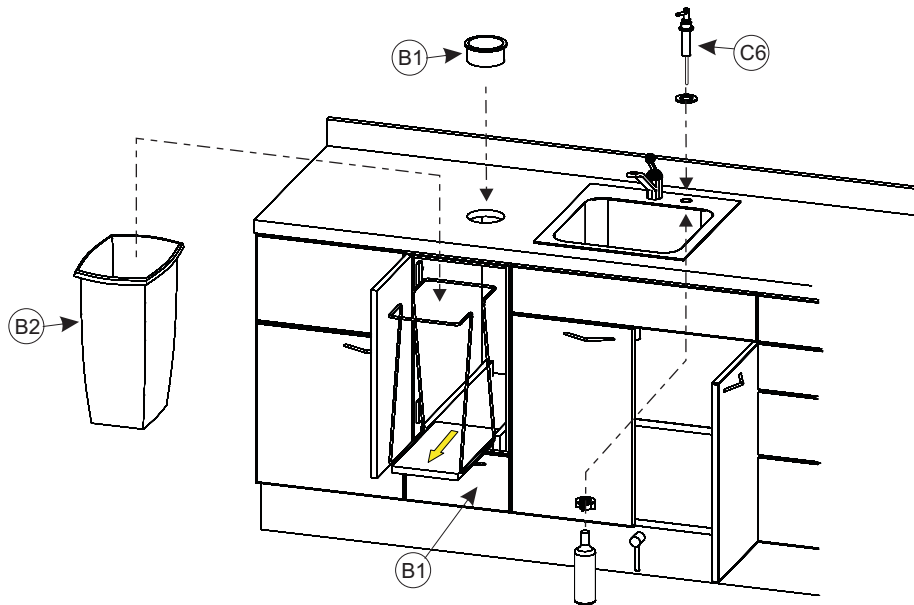
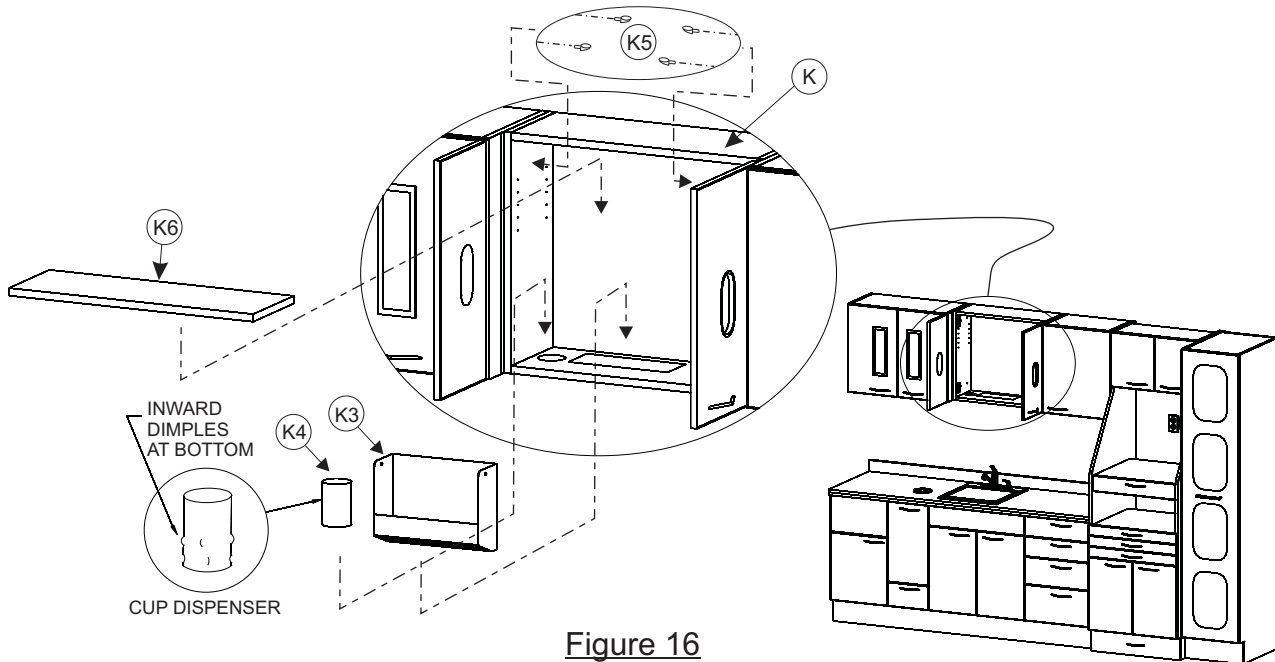

Figure 14
Figure 16
Insert Trash Chute (B1) into chute hole in counter top and place Trash Basket (B2) into the slide out basket holder in cabinet (B) (see Figure 16). Install the Soap Dispenser (C6) into the hole in the sink (see Figure 14).
Insert Towel Dispenser (K3) and Cup Dispenser (K4) into proper openings in Wall Cabinet (K). Insert the Shelf Supports (K5) into the holes in the interior end panels then set the Shelf (K6) onto the Shelf Supports (see Figure 16).